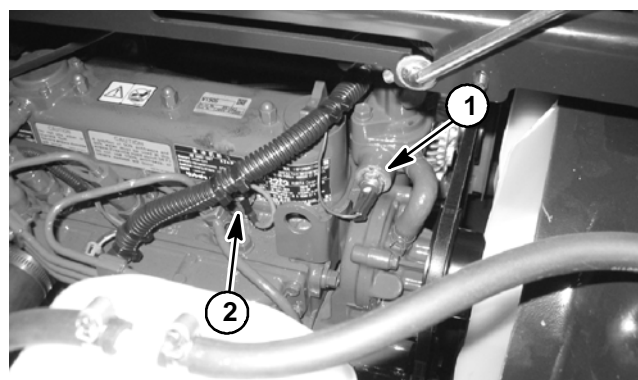

Figure 12
D. Remove wire harness orange wire from glow plug terminal (Fig. 12).
E. Disconnect wire harness blue wire from temperature sender (Fig. 12).